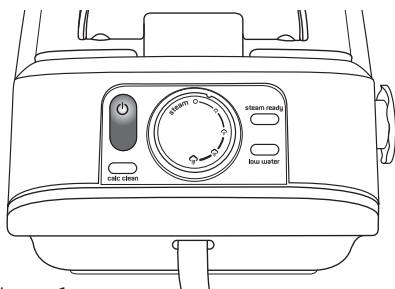

Figure 1
2. Select the power button to turn the unit on. The Power On icon illuminates BLUE as shown in Fig 1. The boiler and soleplate will begin heating and the Steam Ready light illuminates RED.